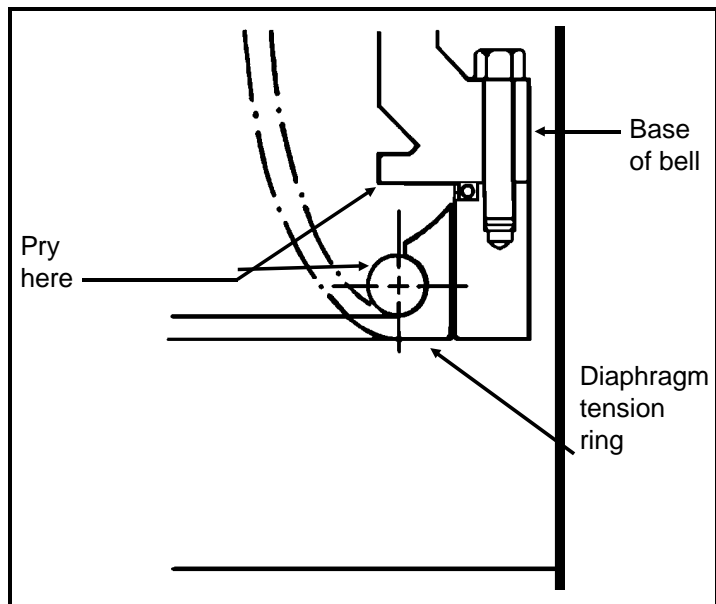

FIGURE 5 (MSSMD423AE)
6. With a pry bar, pry between the bell and the diaphragm tension ring, as shown in FIGURE 5, working all around to prevent the tension ring from becoming cocked inside the support ring. Continue this process until the diaphragm and its contents fall out.